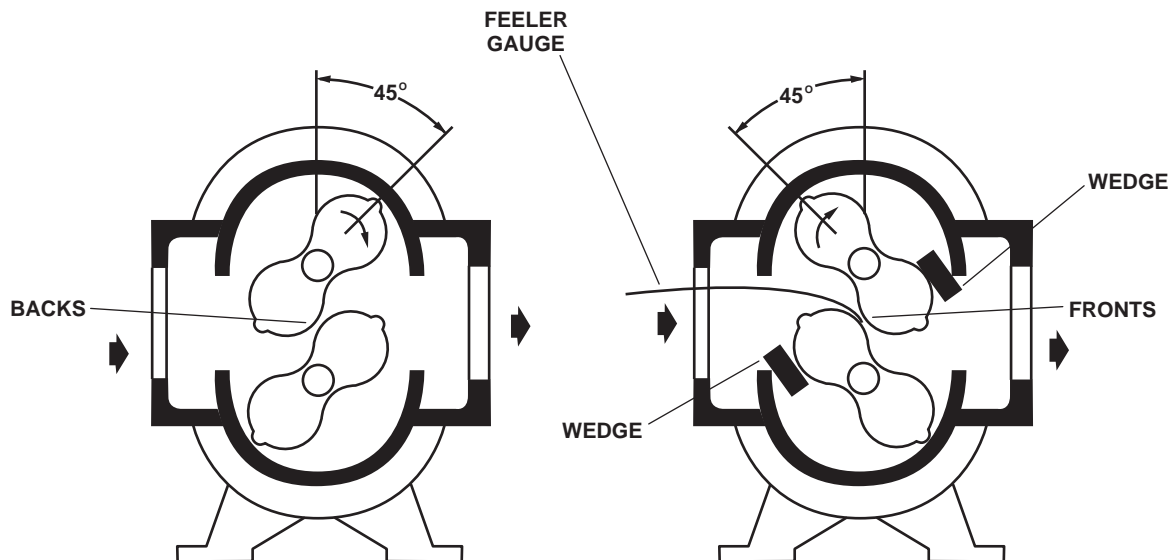

Figure 3. Impeller Fronts and Backs Clearances
29. Using a long set of feeler gauges, check the impeller (figure 1, item 13) fronts and backs clearances as indicated in table 1 and figure 3. The feeler gauge thickness should be a value in between the two values indicated in table 1.
Table 1. Normal Clearances for URA1 22 Blowers (Refer to Figure 3)
31. Check the impeller (figure 1, item 13) fronts and backs clearances at each 45 degree position as indicated in table 1 and figure 3.